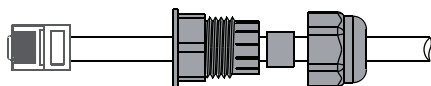

Figure 4.5-4 Remotely close the cable connection
Step 3-2 For Remote Shutdown. Run the cable through the steel plate, Then wire from pins 5 and 6. Table 4.5-1 describes the 6-pin port definition, Wiring is shown in Figure 4.5-4.